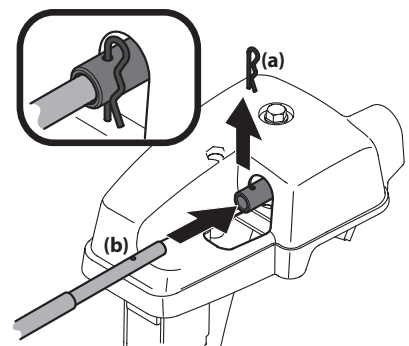

Figure 2-38
- Remove hairpin clip (a) from rear of chute control assembly. See Figure 2-38.
5. Insert flex shaft (b) removed during Handle Assembly from lower handle into rear of chute directional control head. See Figure 2-38. Secure flex shaft to chute control head with hairpin clip (a) removed in Step 4.